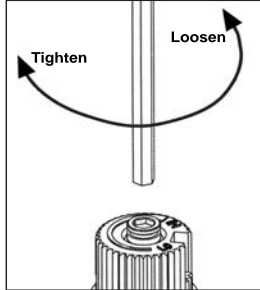

Figure 15: Removing valve screw.
(see Figure 15), rotate it counter-clockwise until it is free and extract it.
- e) Using the Allen wrench as shown in Figure 15, rotate the screw clockwise until a torque of 9 inch lbs.